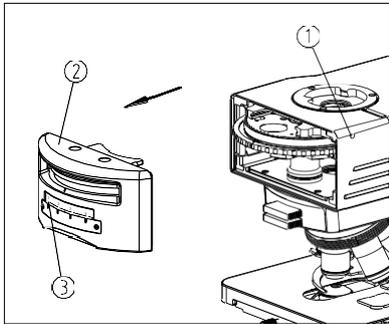

图 4
(1) Loose the screw① in right side of the fluorescence illuminator by a M4 hexagon wrench, pull the front cover② out of the dovetail groove.(See Fig.4)